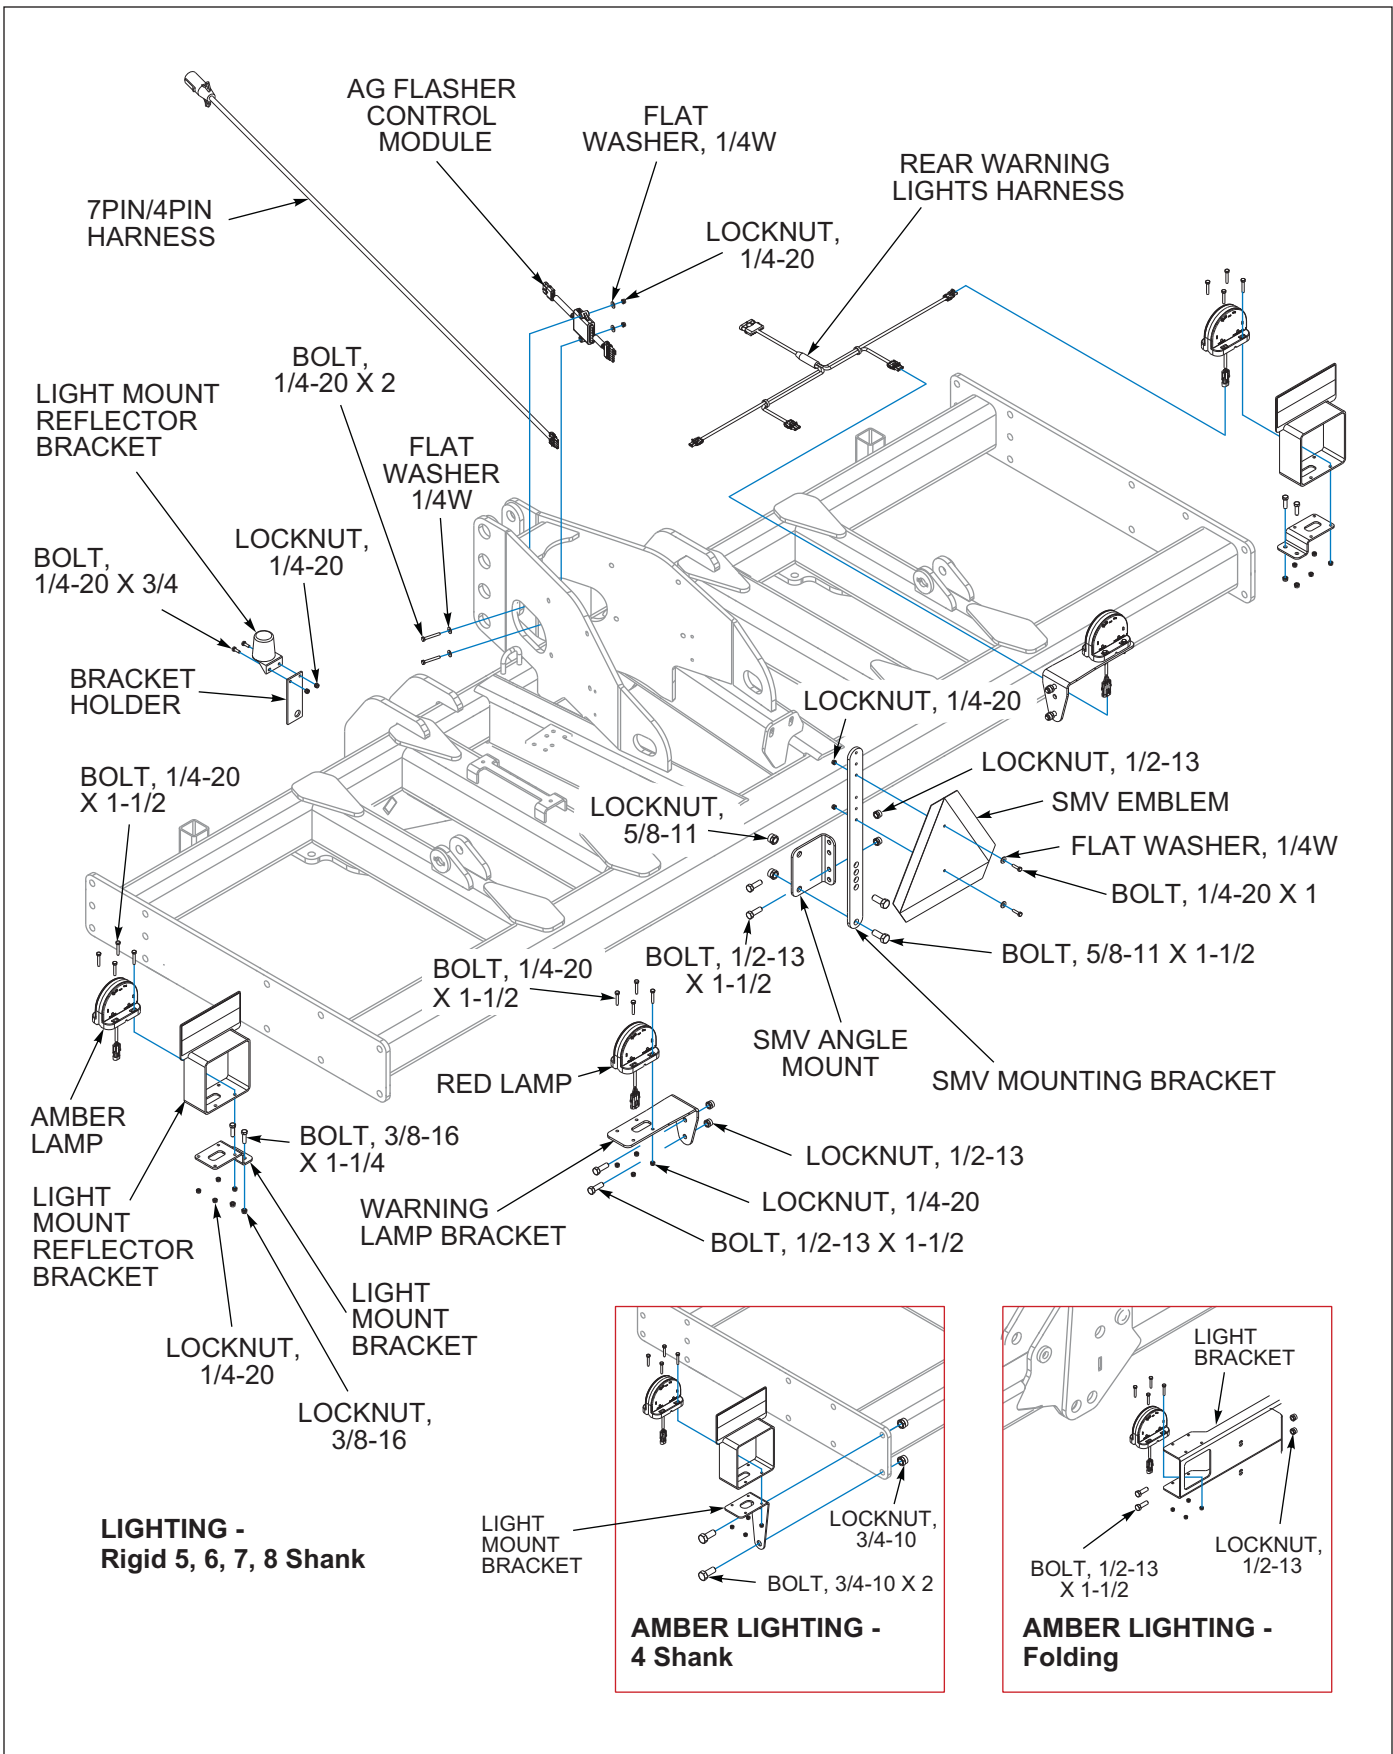

Figure 3-11: LED Light and SMV Bracket Installation
2. Attach SMV emblem to top of SMV mounting bracket using 1/4-20 x 1 hex head cap screws, flat washers, and hex lock nuts (See Figure 3-11.)
1. Attach left and right (Amber) Light Mount Brackets to frame. (*See Figures 3-11 thru 3-12.*)